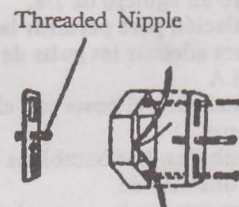

FIG.2 FIG.4
- b) Insert threaded nipple into crossbar. (FIG.2)